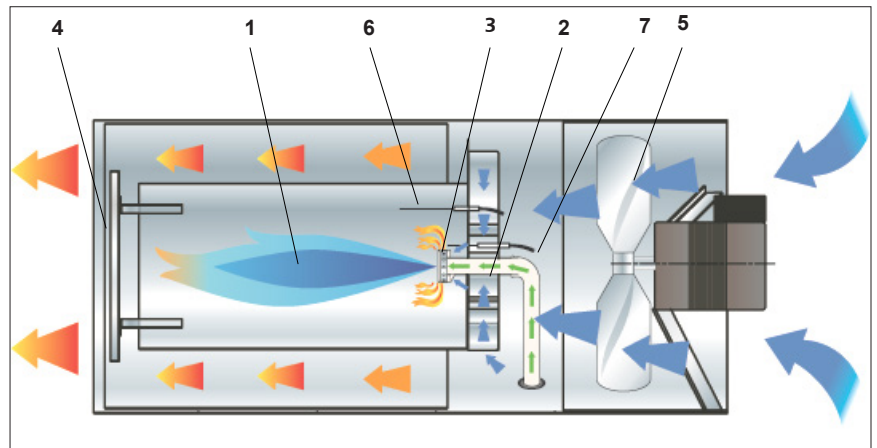

FIG. 4
This operation may be carried out several times during the working life of the heater and not only at initial start-up. First of all refer to SPECIFICATIONS to identify the reference category for natural gas or propane gas type. For each gas category the supply pressure, the working pressure and the arrangement of the diffusion ring (#3 FIG. 4) are stated.
- If stated in Tab.I, change the diffusion ring (#3 Fig. 4):
- Unscrew and remove the ionization electrode (#6 FIG. 4)
- Undo the screws that secure the combustion head (3) to the combustion chamber (#1 FIG. 4)